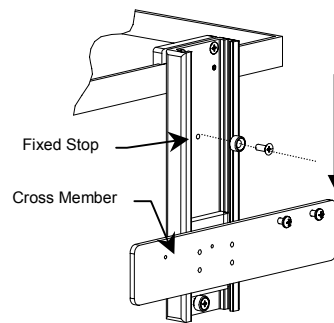

FIGURE 2
2. Slide the Cross Member into the Channel as far down in the Channel as possible. If the molded slide is tight in the Channel, it may be necessary to file down the shear tabs on the sides of the slide. (Fig. 2)
3. Install the black molded fixed stop in the center of the Channel using the #10-32 x 7/16" oval head machine screw provided. This stop is used to maintain proper spacing of the devices. (Fig. 2)